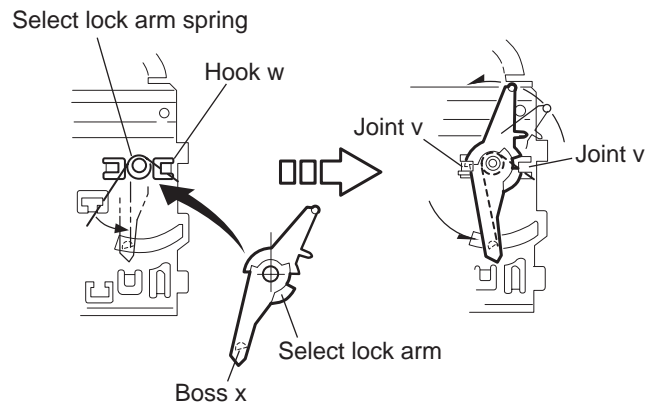

Fig.24
3.2.12 Reassembling the mode sw. / select lock arm (See Figs.24 to 26)